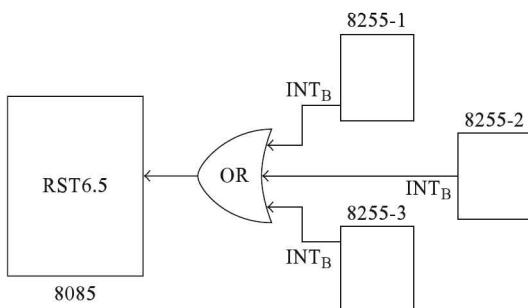

Fig. 23.1
In an 8085 microprocessor, there are five interrupt input pins. They are TRAP, RST 7.5, RST 6.5, RST 5.5, and INTR. If there are a maximum of five I/O devices that desire to perform interrupt driven data transfer, they can be connected to the five interrupt input pins. Now consider the case where there are more than five I/O devices that would like to perform interrupt driven data transfer. In such a case, on some interrupt pins more than one I/O device will have to interrupt. In fact, most microprocessors provide very few interrupt input pins. For example, Zilog Z-80, Motorola 6800, Intel 8086 have only two interrupt input pins. Thus an interrupt pin may be required to receive interrupt requests from several devices. Figure 23.1 shows a case where three I/O devices interrupt the 8085 using the RST 6.5 interrupt input.
In Fig. 23.1, the inputs to the OR gate are from Port B of 8255 PPI chips. Port B in these 8255 chips are assumed to be configured for mode 1 operation. The 8085 is interrupted when any one or more of the three inputs to the OR gate is active. It then branches to the interrupt service subroutine (ISS) at  $6.5 \times 8 = 52 = 0034H$ . Thus the branch to ISS at 0034H takes place immaterial of the source of the interrupt. In reality, the processor is required to branch to different subroutines based on the source of the interrupt. Thus in the ISS for RST 6.5 the processor has to identify from among the I/O ports connected to the RST 6.5 pin the I/O port that needs service. This process of identifying the port that needs service is called ‘polling’. The subroutine that starts at 0034H is now called the interrupt level subroutine (ILS) for RST 6.5 instead of ISS for RST 6.5. Once the port that needs service is identified in the ILS, the processor performs a branch to the appropriate ISS.
2. If all the three inputs of the OR gate are active in Fig. 23.1, then in the ILS shown, device\_1 is serviced first as device\_1 is polled first. Thus the priority for the various devices connected on a single interrupt input pin is decided by the order in which they are polled. Similarly, if only device\_3 is in need of service, the ILS first of all checks device\_1 and device\_2, finds that they are not in need of service, and only then it checks device\_3 and starts servicing it. The priority thus gets fixed and cannot be altered.